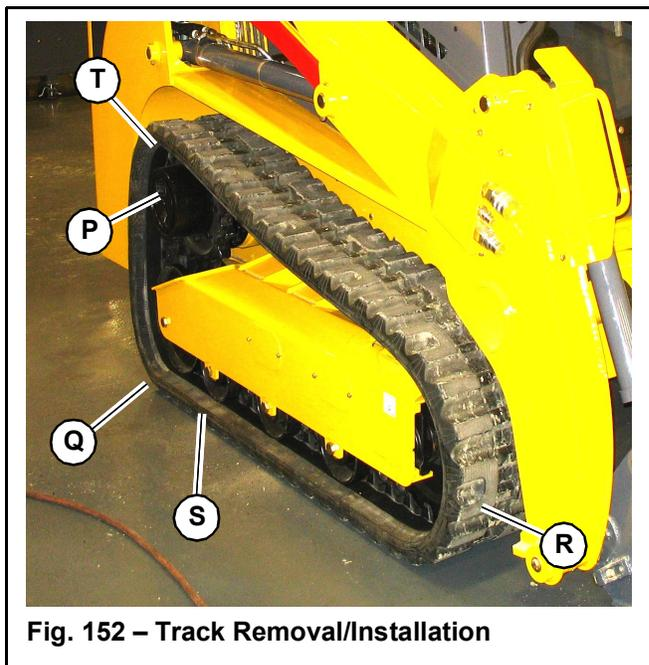

Fig. 152 – Track Removal/Installation
5. Use a pry bar to pry/guide the old track at (R, Fig. 152) off the front idler wheel.
6. Using a hoist with a hook installed and a pry bar, lift/guide the old track at (T, Fig. 152) off the drive sprocket. Remove the old track.
7. Using a hoist with a hook, lift the new track at (T), and manoeuvre the track under the rear idler wheel at (Q) using a pry bar and your foot.
8. Place a block under the new track at (S), to hold the track against the bottom of the rear idler wheel.
9. Using a hoist with a hook and a pry bar, lift/guide the new track at (T) onto the drive sprocket.
12. Remove any wedging blocks (U) that were used to guide the track.
13. Remove the block placed under the track at (S, Fig. 152).